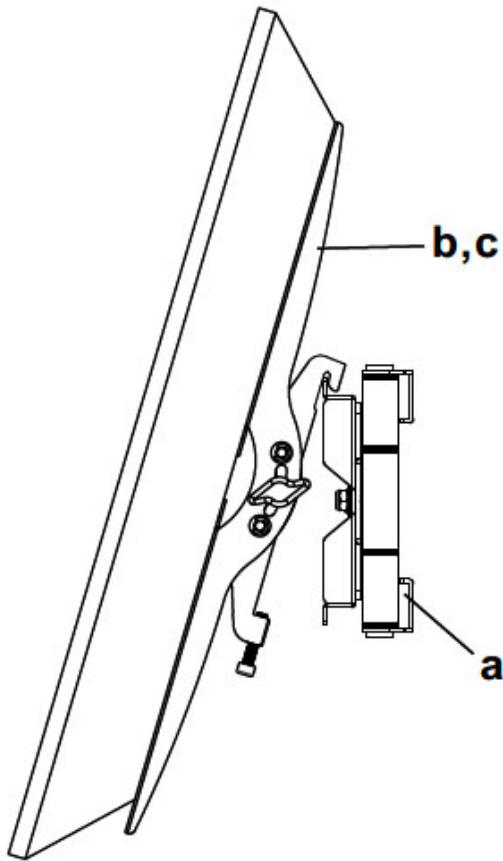

Figure 6
1. Hang the TV with monitor bracket (b,c) assembly onto the top of the wall plate (a) then let the bottom of the monitor brackets rotate to the bottom of the wall plate. See Figure 6.